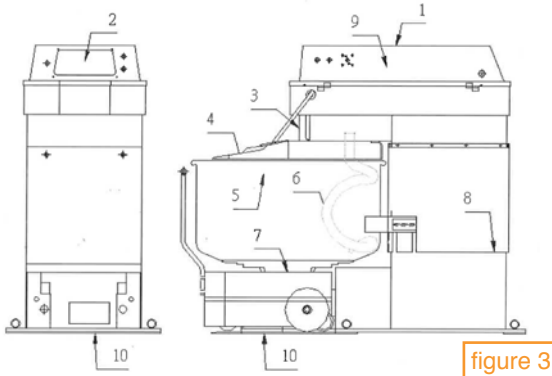

figure 3
2. Make sure that the bottom plate of the machine is parallel with the floor, if not, you can adjust it by adjusting leveling screws as shown in Figure 3. (remark:
floor must be flat as shown in figure 3, the 6 seats(broken line position) must touchdown at one time.